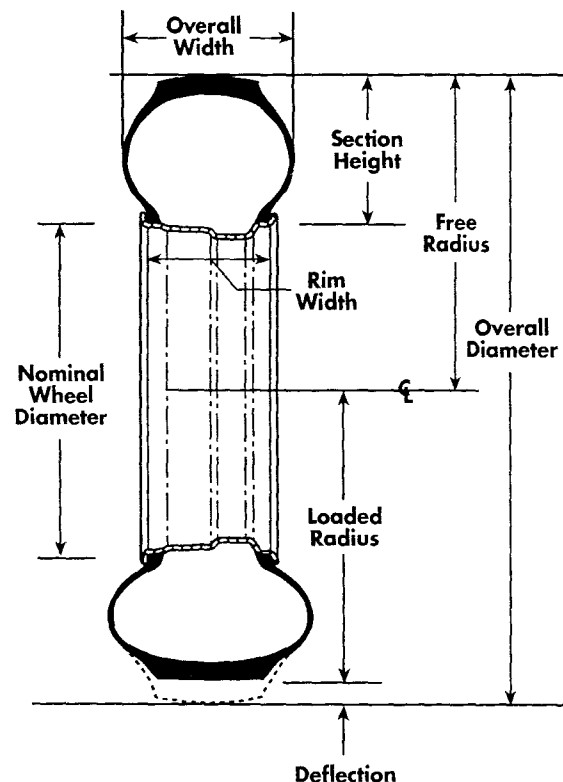

FIGURE 1
6. **Overall Width:** The maximum width (cross section) of the unloaded tires including protruding side ribs and decorations. (See Figure 1)
7. **Overall Diameter:** The diameter of the unloaded new tire (measured from opposite outer tread surfaces). (See Figure 1)